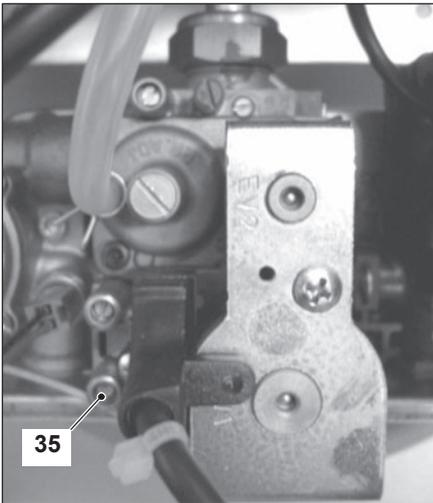

Fig. 7.7
- Loosen the internal screw on the Inlet Pressure Test Point 35 (Fig. 7.7) on the Outlet Pressure Test Point of the Gas Valve and connect a pressure gauge using a suitable hose.
- Disconnect the pressure gauge and close the Inlet Pressure Test Point 35 (Fig. 7.7).